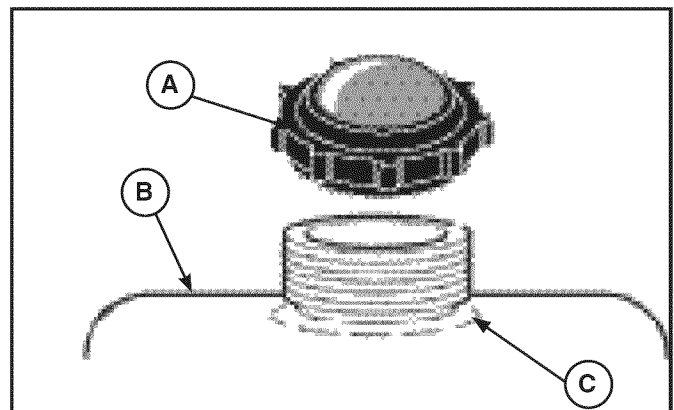

FIGURE 5
1. Clean the fuel cap area of dirt and debris. Remove the fuel cap (**A**, Figure 5). Also see **Features and Controls** section.